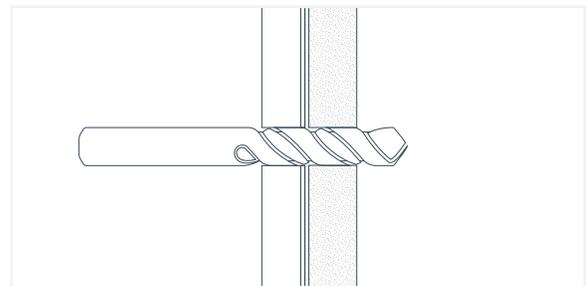

Fig. 50
1. Drill a hole through the Trusscore Wall&CeilingBoard and any backer material if applicable (Fig. 50). The hole size is dependent on the size of toggle bolt you are using. This should be indicated on the toggle bolt packaging.